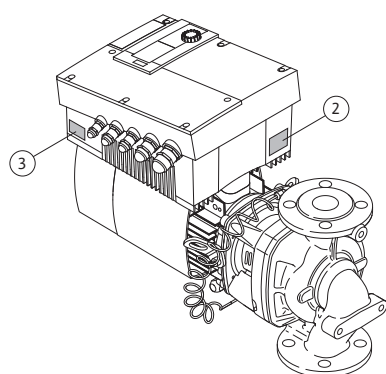

Fig. 12: Arrangement of the rating plates:
- The drive rating plate is on the electronic module on the side with the cable bushings (Fig. 12, Item 3). The electrical connection is to be made in accordance with the specifications on the drive rating plate.